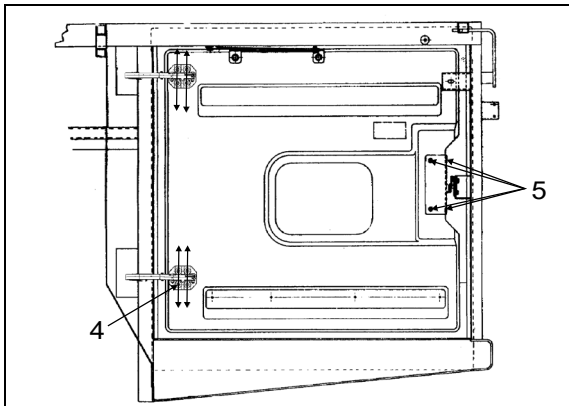

FIGURE 95: ENGINE COMPARTMENT R.H. DOOR
8. Loosen screws (4, Figure 95).